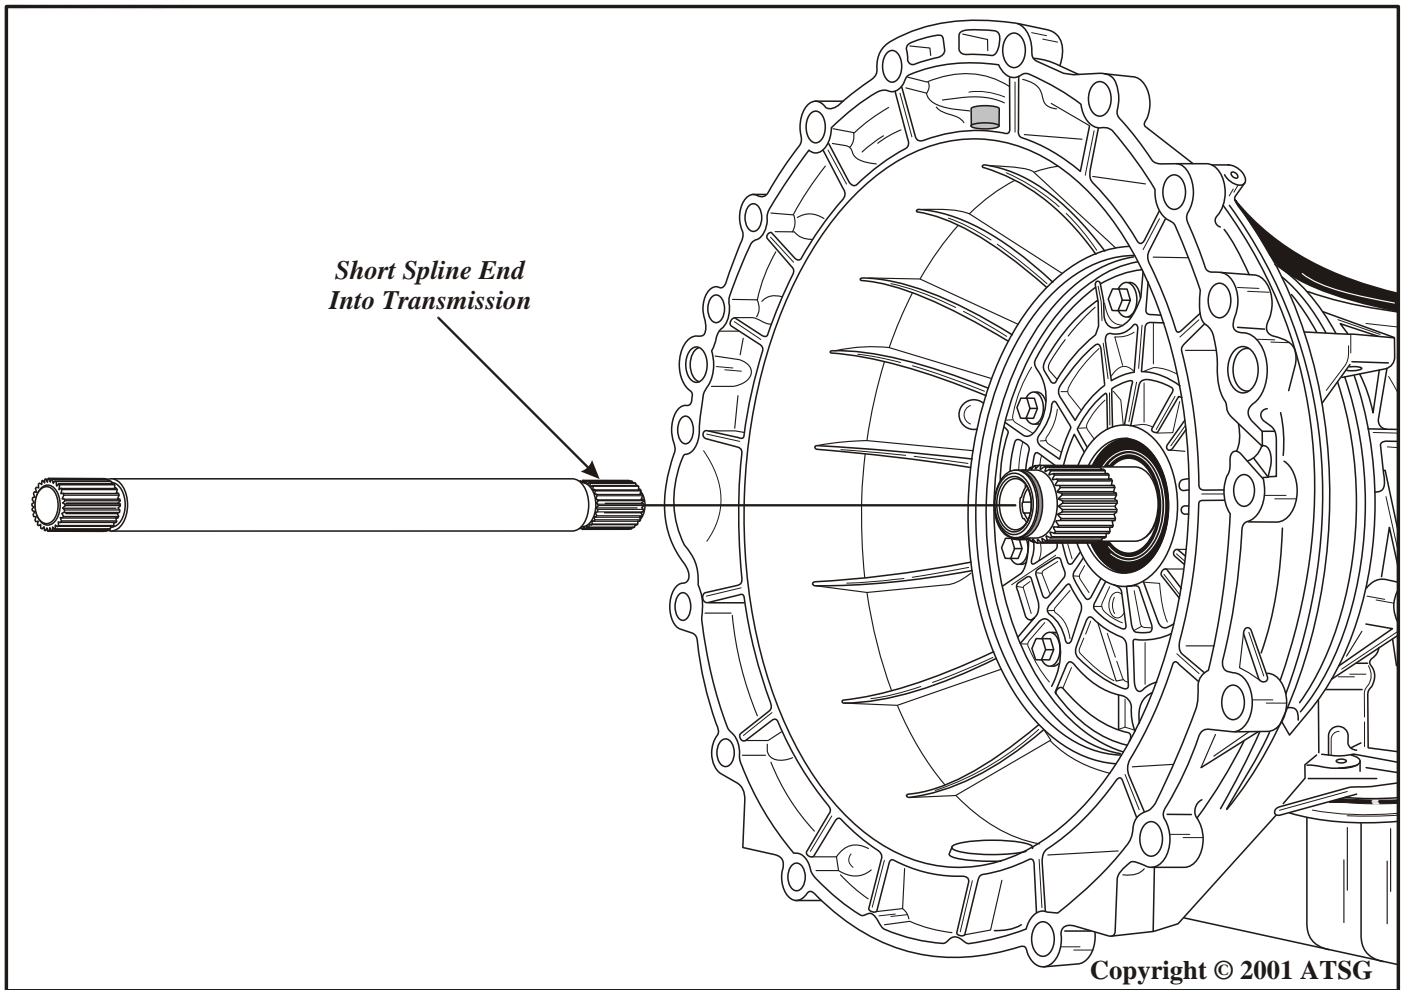

Figure 189
9. Install the input shaft into the transmission, as shown in Figure 189.
Caution: *The splines on input shaft are not the same length on both ends. The end with the shorter splines goes into transmission, as shown in Figure 189.*